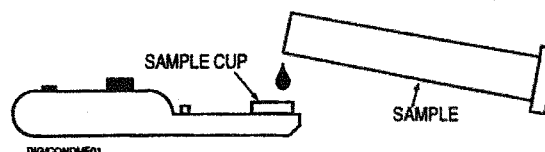

Figure 1
2. Fill sample cup. (See Figure 1).